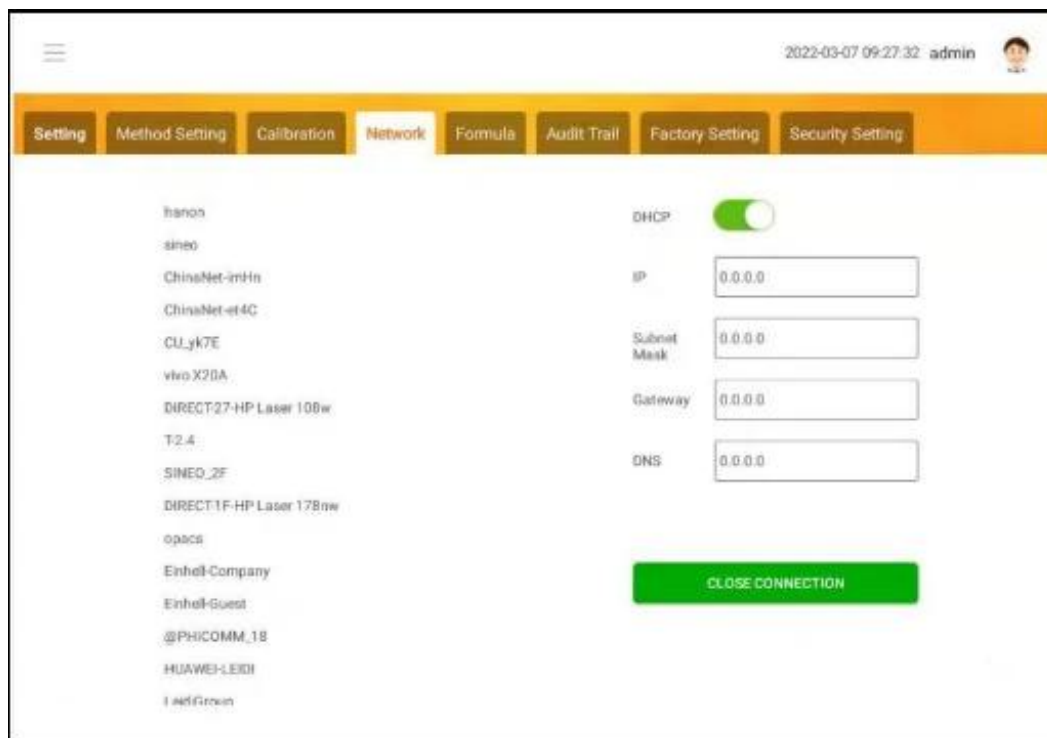

Figure 44
7. Click "Connect computer", the red box turns green, and the connection is successful, as shown in Fig.44 below.